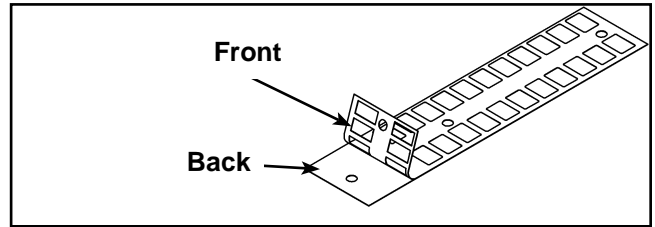

Figure 15
- A. Slowly and carefully peel off back side of decal. See Figure 15. **NOTE:** When peeling off back cover, make sure that the decals remain attached to the front sticker.